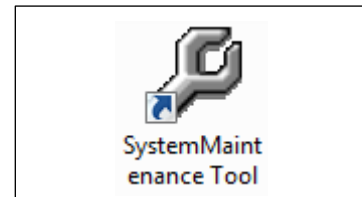

Fig. 5 Desktop icon of the Maintenance Tool
- If all these settings are correct, close ZEN and then start the SystemMaintenance Tool by clicking the desktop icon (Fig. 5).